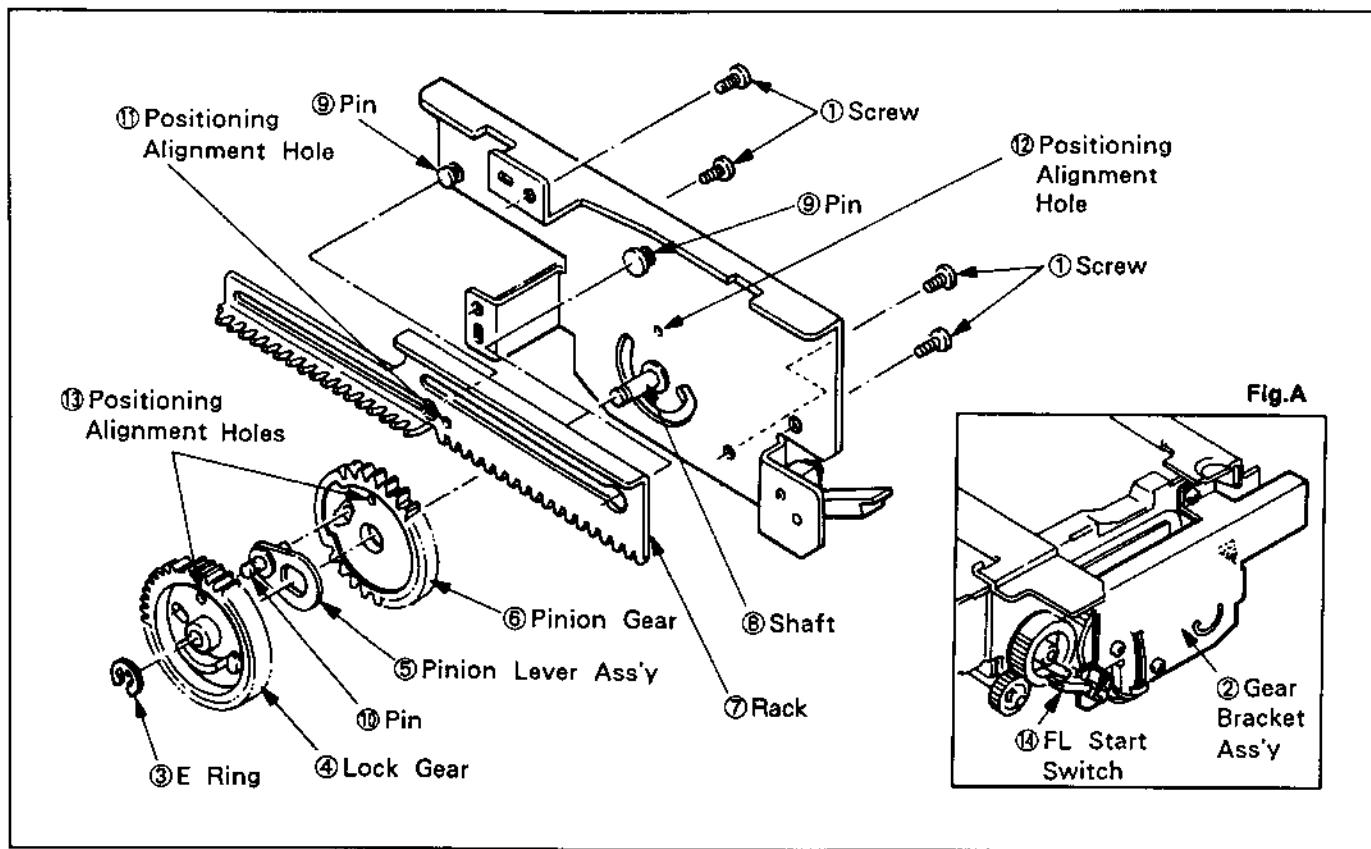
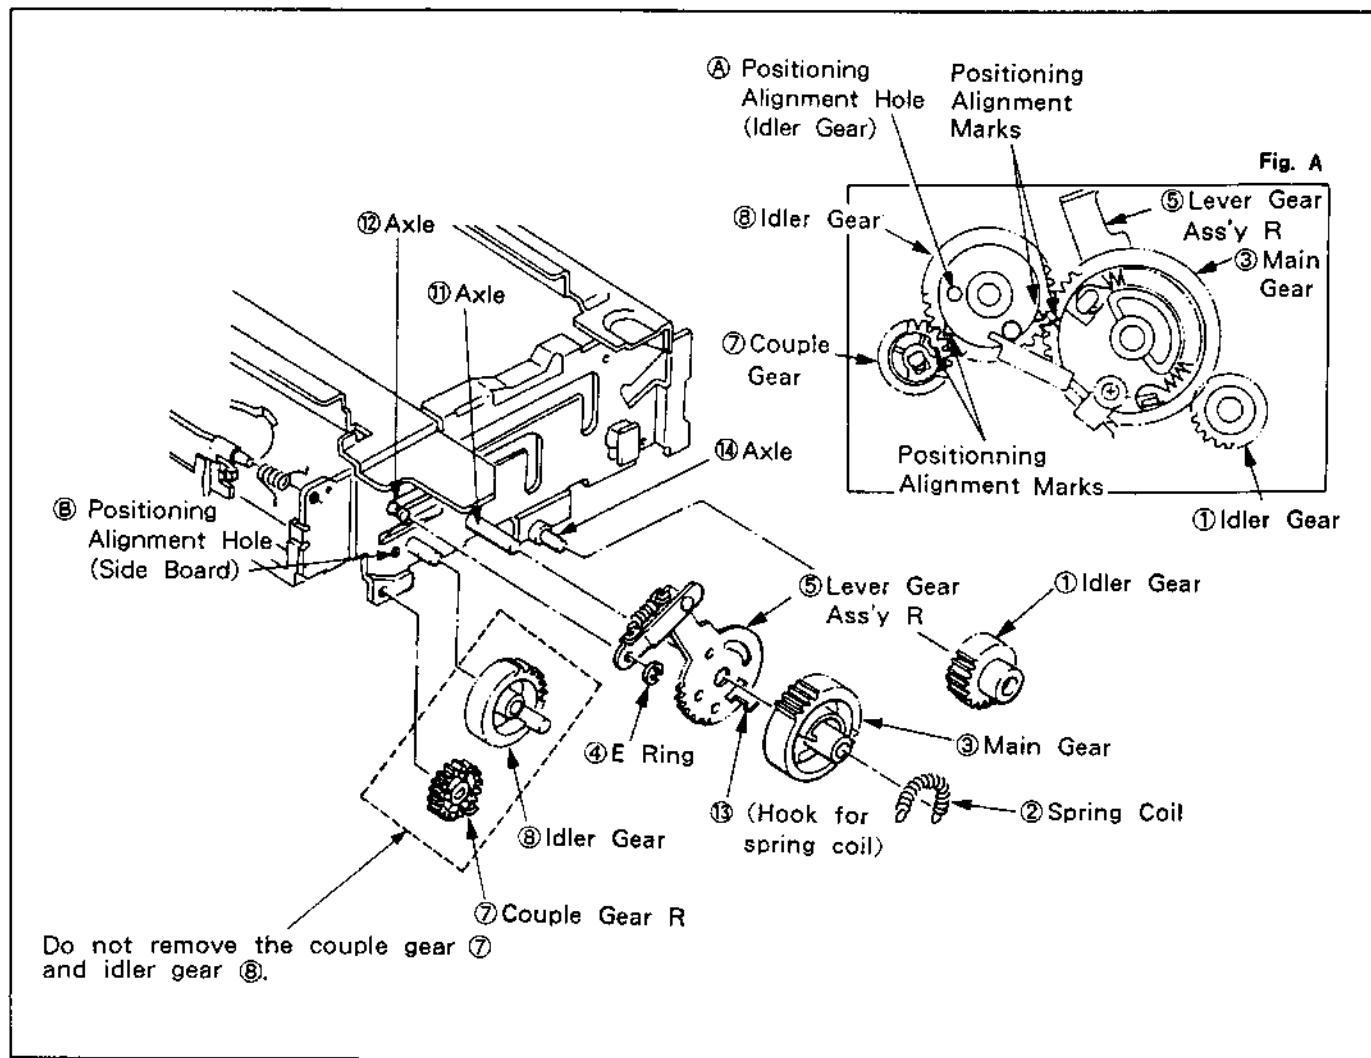

Fig. 2-2-2. Gear Bracket Ass'y
Fig. 2-2-3. Cassette Drive Gears (Right Side)
## 2-2-2. GEAR BRACKET ASS'Y (See Fig. 2-2-2.)
- 1) Apply grease to the shaft ⑧ and the two pins ⑨ of the GEAR BRACKET ASS'Y.
- 2) Apply grease to the pin ⑩ of the PINION LEVER ASS'Y.
- 3) Apply grease to the toothed part of the RACK ⑦.
- 4) Fit the RACK ⑦ onto the two pins ⑨. Align the positioning alignment hole ⑪ to the positioning alignment hole ⑫ of the GEAR BRACKET.
- 5) Mount the PINION GEAR ⑥, PINION LEVER ASS'Y ⑤, and LOCK GEAR ④ in the shaft ⑧ in the order mentioned. Align the positioning alignment holes ⑬ of PINION GEAR and LOCK GEAR with the positioning alignment hole ⑪ of RACK at that time.
- 6) Mount the E ring ③ onto the shaft ⑧.
- 7) Set the GEAR BRACKET ASS'Y ② to the dowel and mount it using four screws ①. Align the positioning alignment hole ⑭ of the IDLER GEAR with the positioning alignment hole ⑮ of the SIDE BOARD as shown in Fig. 2-2-3 at this time. Also align the positioning alignment holes ⑯ of PINION GEAR and LOCK GEAR with the positioning alignment hole ⑯ of GEAR BRACKET by referring to Fig. 2-2-2. After mounting them, check to be sure that FL START SWITCH ⑯ is in the ON state shown in Fig. A.
(See Fig. 2-2-3.)